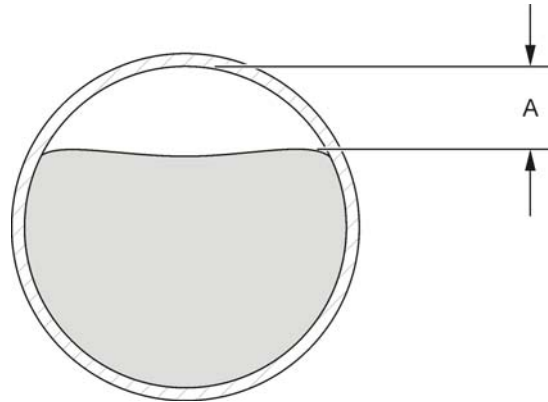

Figure 11 Depth of flow measurement
2. Measure the distance from the top of the pipe to the top of the water (Figure 11).